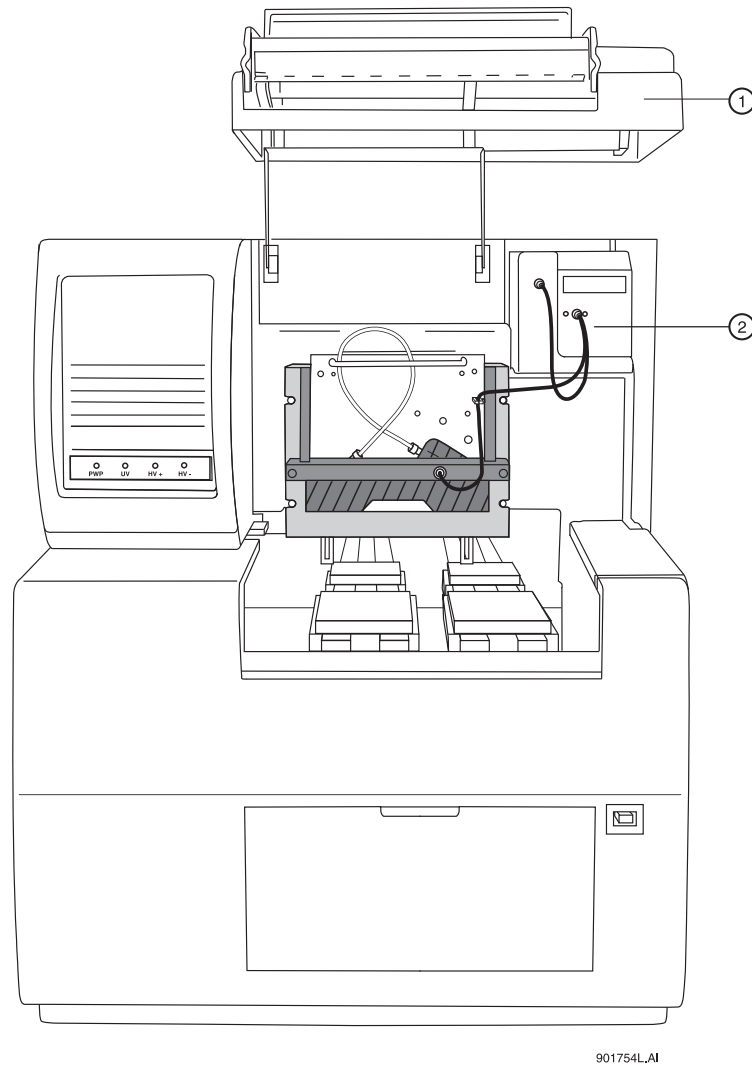

Figure 4.32 Location of Fiber Optic Cable
2. Lift the cartridge cover door at the front of the P/ACE MDQ. Refer to Figure 4.32.
8. When all of the fiber optic cable connectors have been cleaned and reconnected, close the cartridge cover door. Refer to Figure 4.32.